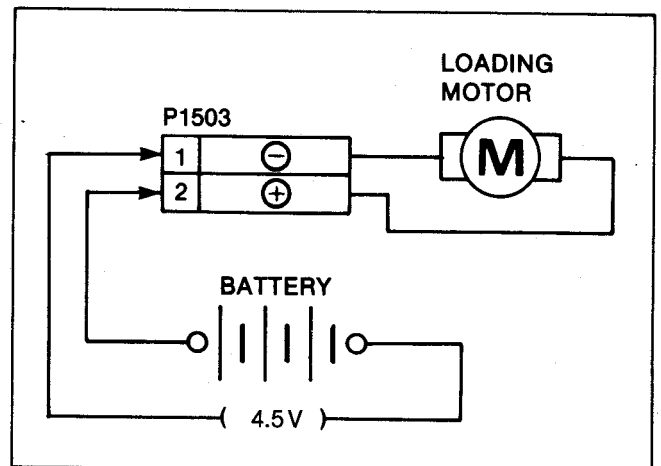

Fig. S8
- 1) Connect the battery (Manganese-Type R6 (AA) 3pcs./+4.5V) to P1503 as shown in Fig. S8.